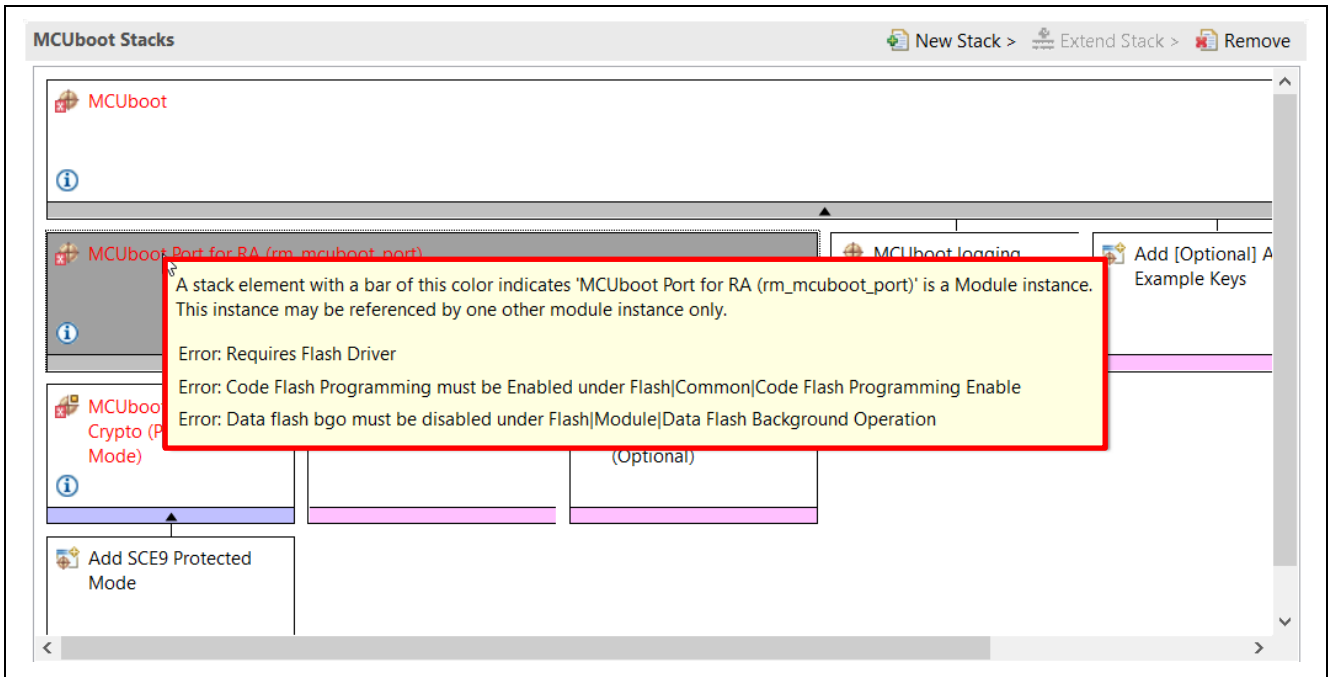

Figure 64. Dependencies of MCUboot Module for RA Stack
- Configure the “MCUboot Port for RA” dependencies. Follow the prompt in Figure 64 to update the corresponding properties for the MCUboot Port for RA Module.